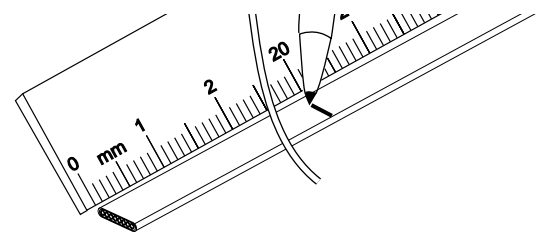

Figure 2
4.1 Determine the cable strip lengths (i.e., the lengths of jacket to remove, and aramid yarn to leave) from the instructions provided with the connectors, or other fiber optic devices you are installing on the cable. Mark this distance on both flat sides of the outer cable jacket with a permanent marker (Figure 2).